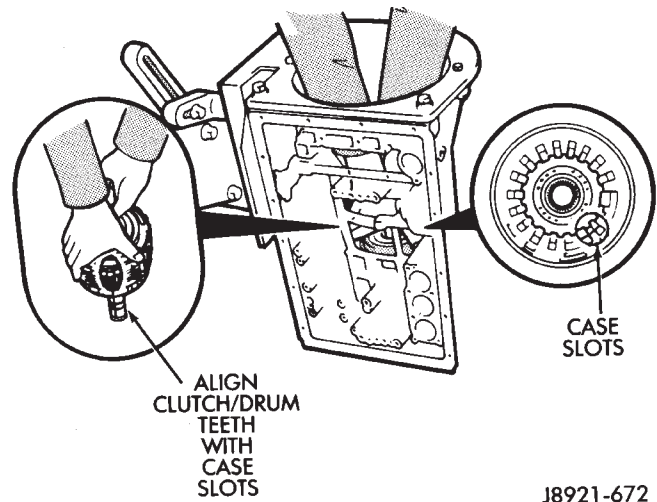

Fig. 5 Installing Output Shaft And Rear Planetary Assembly
(8) Align rear planetary-output shaft assembly teeth with case slots and install assembly in case (Fig. 5).